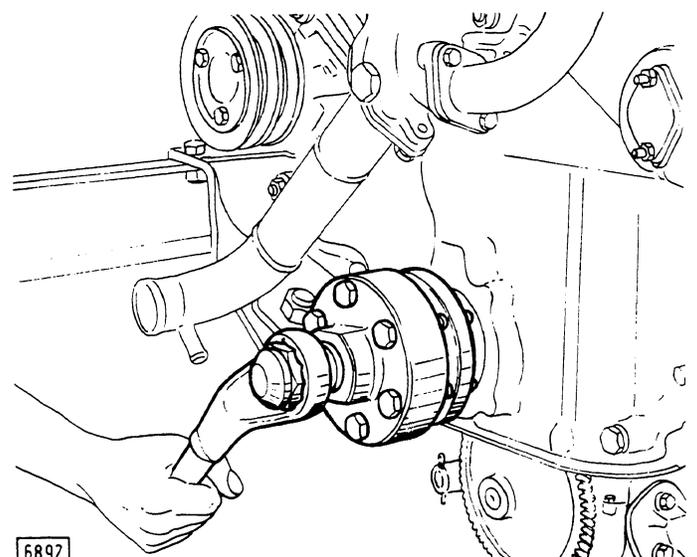

Fig. 33 - Removing Crankshaft Vibration Damper Using Extractor 291504
- Remove the crankshaft vibration damper (see Fig. 33) using extractor **291504**.